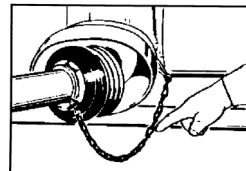

FIG 4.6
5. Attach the safeguard chains of the drive shaft to a certain part at the tractor and the attachment. (Fig. 4.6)